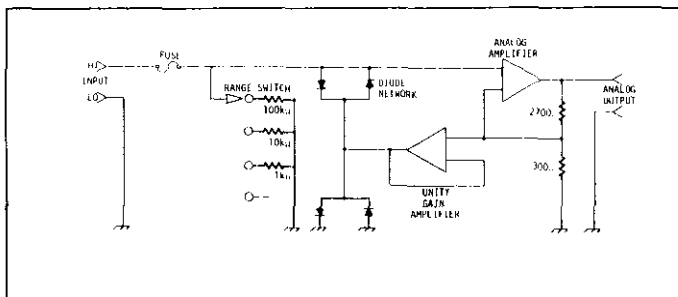

FIGURE 14. Ammeter Configuration.
4. DCA. When this mode is selected the input HI is connected to the analog amplifier and shunted to LO through range resistors as shown in Table 3-5. See Figure 14.